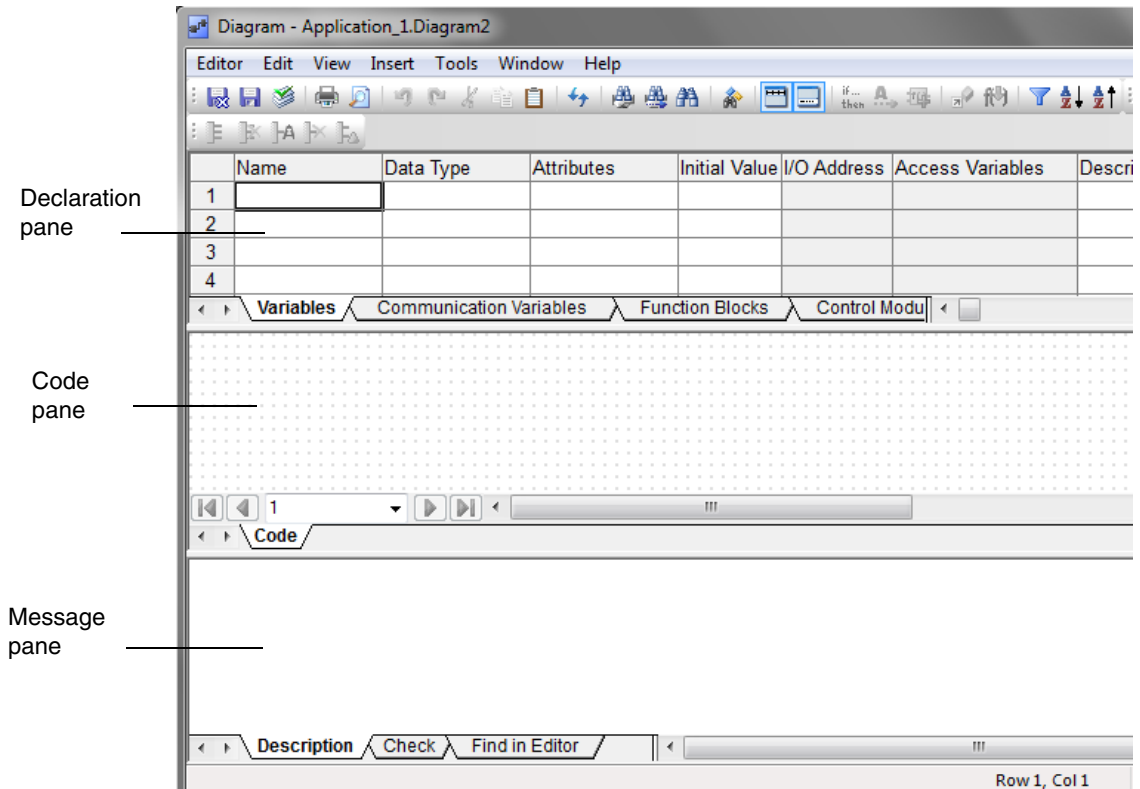

Figure 23. The editor for Diagram2
- The diagram editor is divided into three panes: the declaration pane, the code pane, and the message pane, see Figure 23.